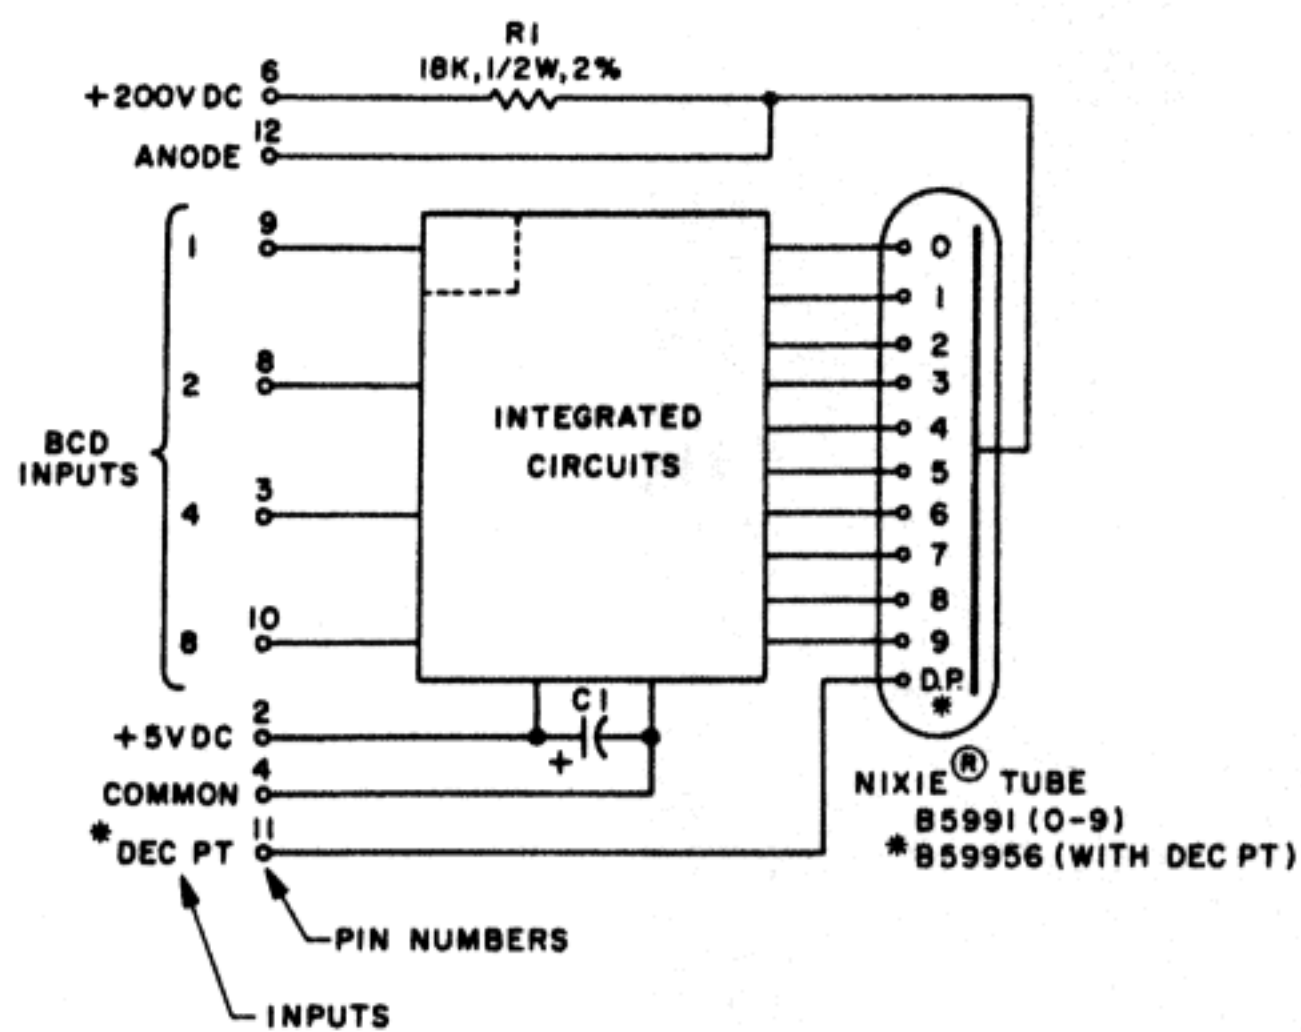

Figure 2. BLOCK DIAGRAM
5. When using the BIP-8804-2, the decimal point input is directly connected to the decimal point (See Figure 2). Appropriate high voltage driver circuits must be externally provided.